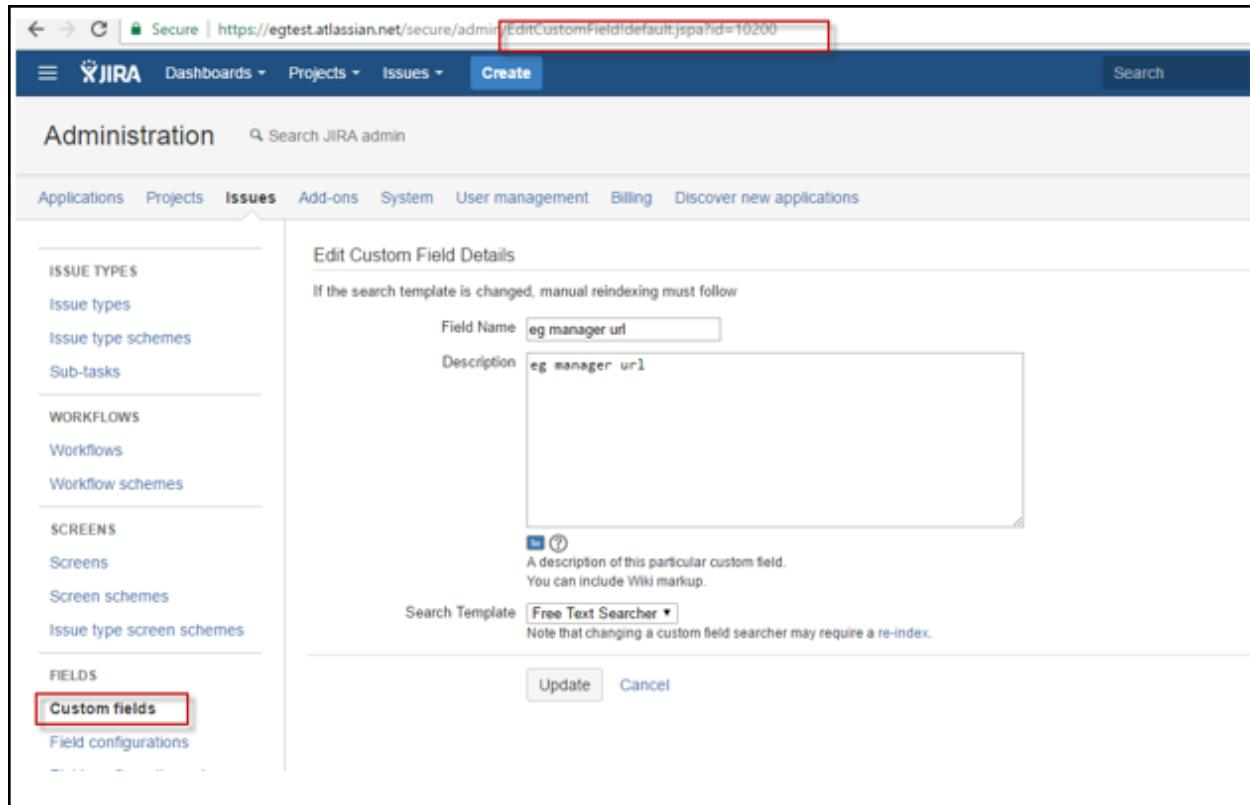

Figure 5.49: Determining the ID of the 'eG manager URL' custom field
- When Figure 5.49 appears, shift your focus to the browser address bar. In the URL that appears in the address bar, look for the following entry: `EditCustomField!default.jspa?id=`
The same has been indicated by Figure 5.49.
The value that appears after the = symbol in the entry, is the ID of the custom field that is being edited – i.e., the ID of the 'eG manager url' custom field in our example. In Figure 5.49, this ID is 10200. Make a note of this ID.